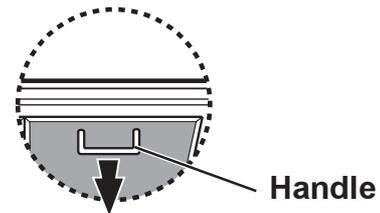

Fig. 4 - EFG 540
- Pull the handle downwards. Fig. 4.